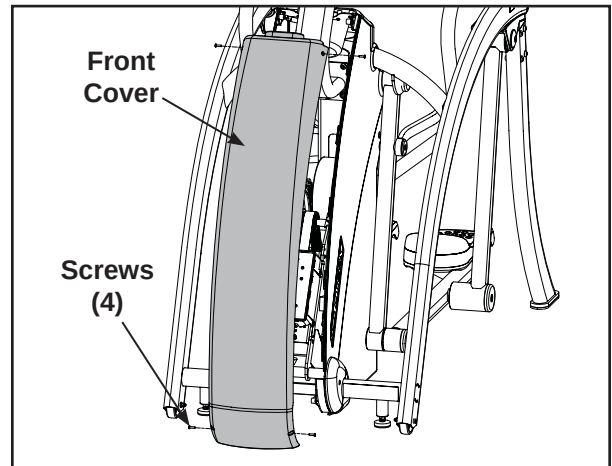

Figure 2
- A. Using a Phillips screwdriver, remove the four screws securing the front cover. See Figure 2.
- A. Place the front cover in position. See Figure 2.